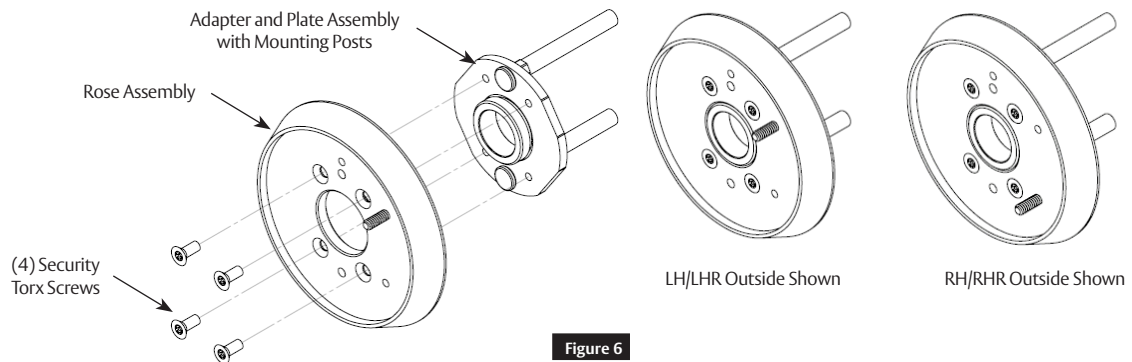

Figure 6
- Insert two (2) mounting posts into adapter plate. (Figure 6)
- Install rose using four (4) security torx screws.